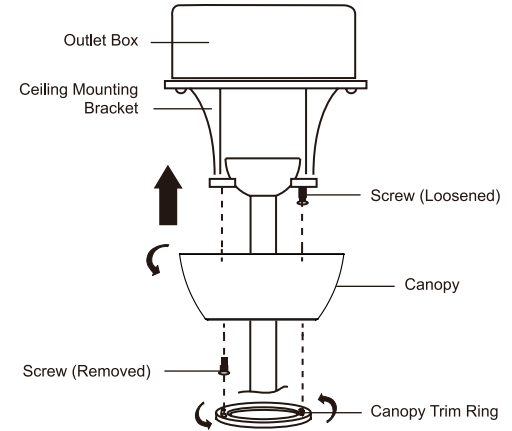

Fig. 13
Step 2. Carefully raise the canopy up to the ceiling mounting bracket and place the keyhole slot in the canopy over the screw head on the ceiling mounting bracket. Rotate the canopy until it locks in place against the screw at the narrow section of the keyhole slot. **(Fig. 13)**
NOTE: Adjust the screws as necessary until the canopy and canopy trim ring are snug. **(Fig. 13)**